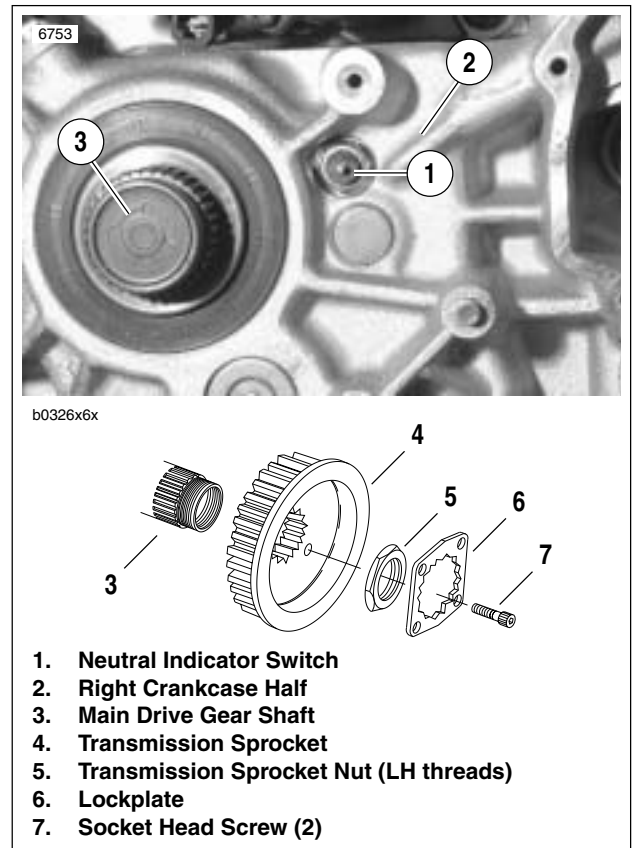

Figure 7-71. Neutral Indicator Switch
See Figure 7-71. The neutral indicator switch (1) is threaded into the transmission portion of the right crankcase half (2); it is immediately forward of the main drive gear shaft (3). The sprocket cover must be removed to test the switch. If switch requires replacement, secondary drive belt and transmission sprocket must also be removed; there is not enough clearance to allow the removal of the switch without first removing the transmission sprocket.
2. See Figure 7-71. Disconnect wire lead from neutral indicator switch (1).
3. See Figure 7-71. Place transmission in first gear. Remove two socket head screws (7) and lockplate (6).